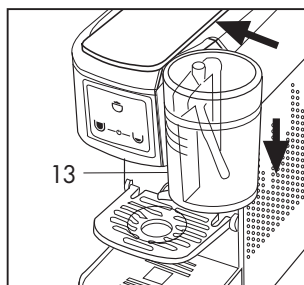

Fig. 19
Place the beaker (13) in its seat on the machine, pushing it well against the machine, right to the bottom. (Fig. 19)